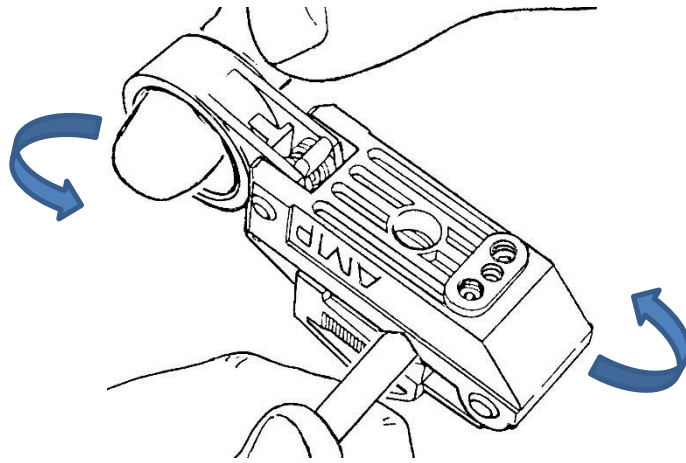

Figure 8
6. Rotate tool around cable about five times (see Figure 8). Push slide forward to next position in sequence. Rotate tool again. Then push slide forward to final position and rotate tool final five times.